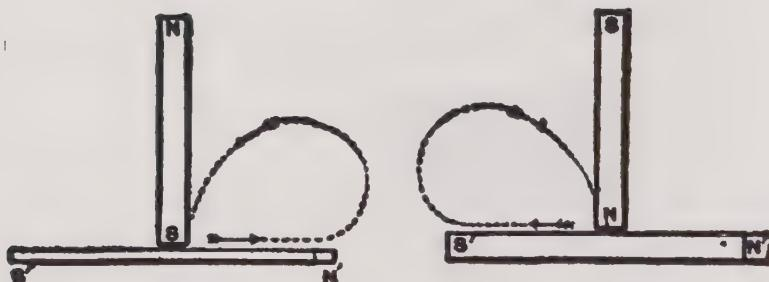

Fig. 65. Making a Magnet by use of a Permanent Magnet.
I. Lay one down on the table and stroke one-half of the bar from the center out to the end. Fig. 65. Do this ten times with the S-pole of a permanent magnet,